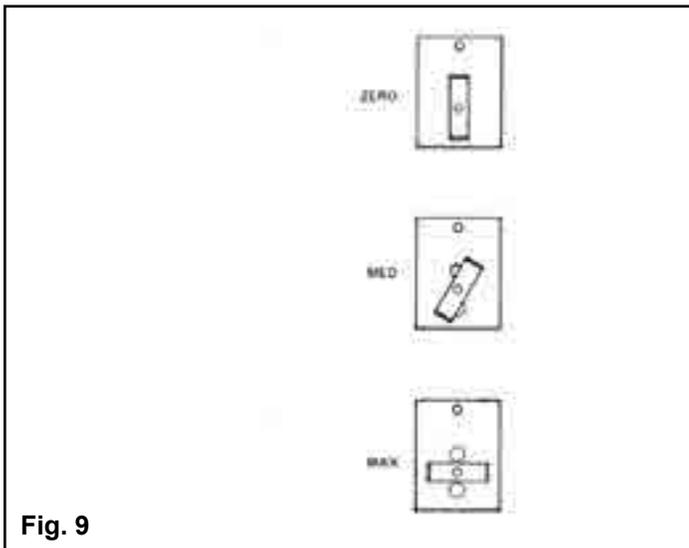

Fig. 9
The idle air adjuster (D) controls the minimum amount of air that enters the firebox. Adjustment is made by turning the adjuster vertical for zero idle air, or horizontal for maximum idle air. It is best to start out with a medium setting as shown in Figure 9.